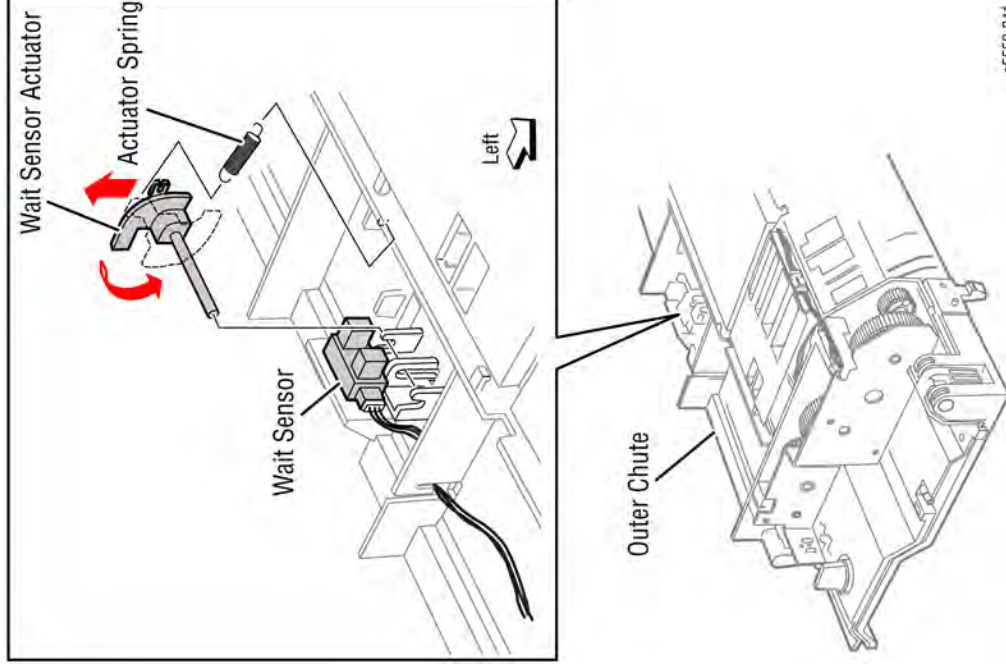

Figure 1 Removing the Wait Sensor Actuator
3. Turn the actuator 180 degrees and move it in the direction of the arrow to remove it as in Figure 1.